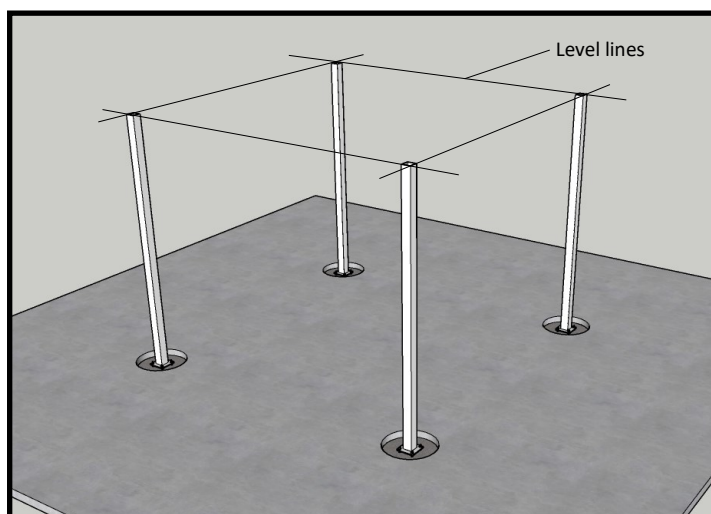

Fig 3
3. Once all post are in place, make sure they are plumb and the tops are level with each other. This is done by adjusting the nuts on the footer anchor bolts. If you cannot get the top of the posts level completely, Cut the tops of the highest posts to a level line with the lowest posts. (see fig 3)